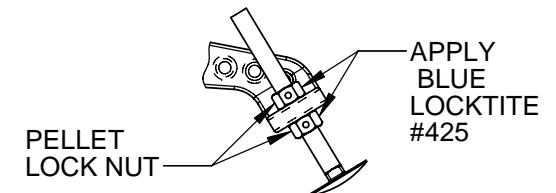

FIGURE 3
- 4) Make a 30-psi reduction with the Single Car Test Device or automated test device. With the brakes applied, rotate the Adjusting Screw upward until a slight blow of air is obtained at the pipe plug hole. Using the Lock Nut and Blue LocTite No. 425 or equal, lock the Adjusting Screw in place - making sure it does not turn in the process. (See Figure 3)